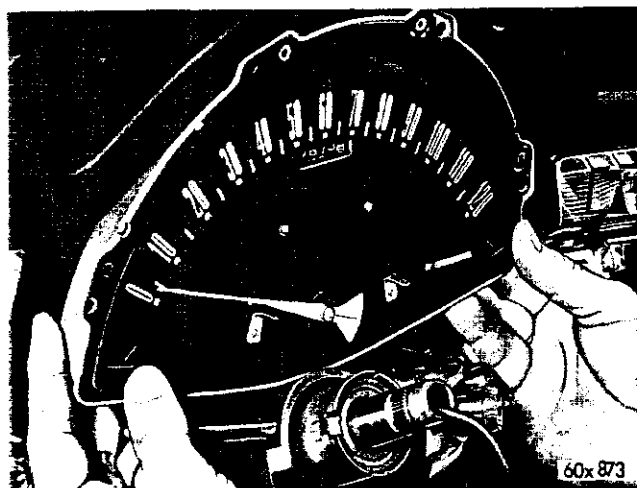

Fig. 121—Removing the Speedometer Head Assembly
(11) Remove the four screws and remove the speedometer head assembly (Fig. 121).
(1) Install the speedometer head assembly (Fig. 121). Install and tighten the speedometer to panel attaching screws.
(2) Position the instrument cluster in the instrument panel housing and install the parking brake warning lamp in the cluster well socket.
(3) Work the dome and cluster carefully into position, entering the right corner of the dome base into the dome supports. Carefully move the assembly with a slight rocking motion until the dome and cluster assembly is in position on the instrument panel. (Springing down slightly on the dome supports will aid the installation.)
(4) Install the four screws attaching the plastic dome to the instrument panel.